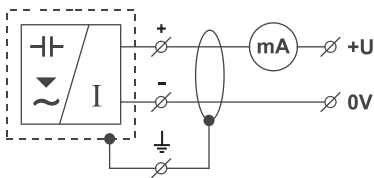

Fig. 11: Connection diagram of level meter with current output CLM-70_--_I
5. Connect the cable to threaded terminals, as shown in the diagram in Fig. 11. Tighten the terminals and cable gland firmly. For the tightening torque, see the Technical Specifications.